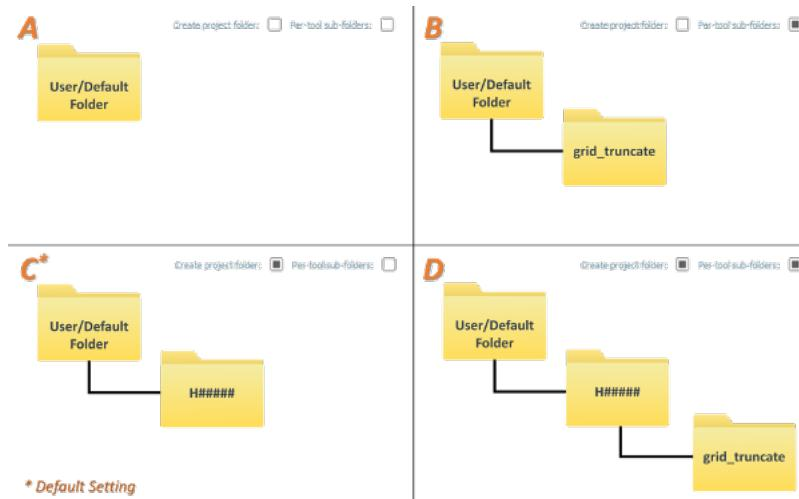

Fig. 2.55: The resulting folder structure based on the four available combinations of output flags.
- No flags set (see Fig. 2.55, pane A). The outputs are stored directly under the default or user-defined location.
- Only the **Per-tool sub-folders** flag set (see Fig. 2.55, pane B). The outputs are stored in a tool-specific sub-folder (in the default or user defined-location).
- Only the **Create project folder** flag set (see Fig. 2.55, pane C). The outputs are stored in a survey folder (in the default or user defined-location). *This is the default setting.*
- Both flags set (see Fig. 2.55, pane D). The outputs are stored in tool-specific sub-folders in a survey folder (in the default or user defined-location).